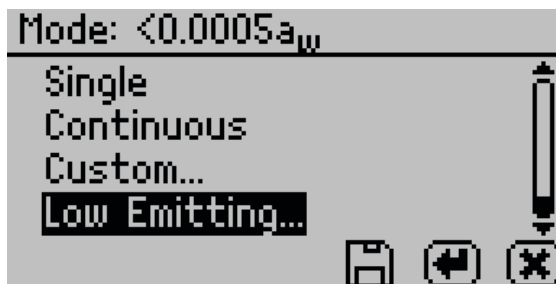

Figure 34 Low-Emitting mode screen
- Low-Emitting mode gives the option of speeding up test time by adjusting the equilibrium trigger value (Figure 34).